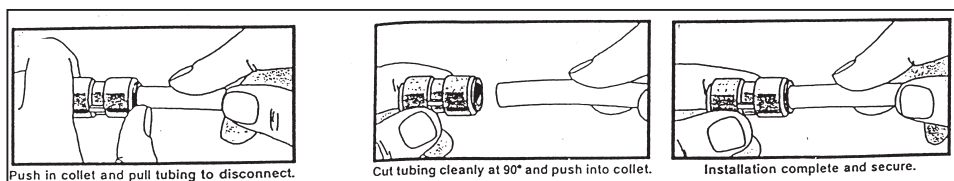

Figure 3
1. Remove the tubing from the bottom fitting of the sand tank. See Figure 3 for instructions on quick fittings.